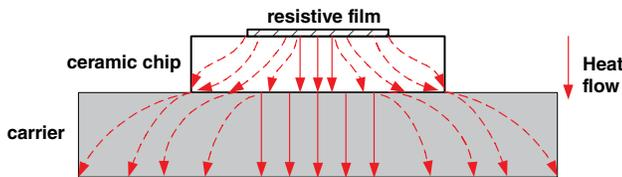
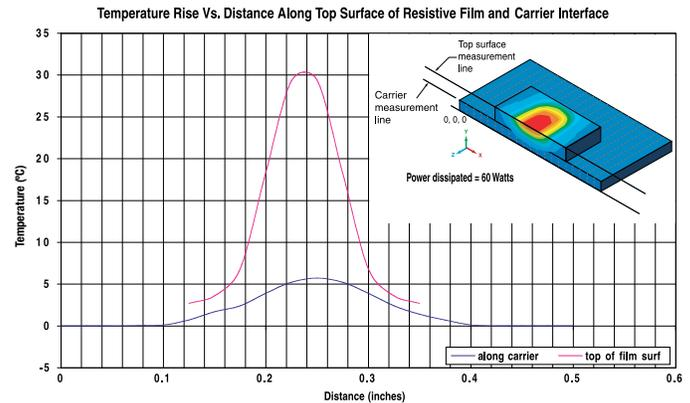
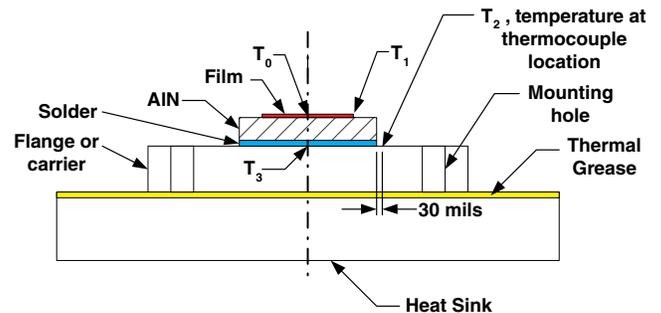

Figure 10. Heat flow around a mounted chip resistor
Figure 11: Computer simulation of isotherms around mounted chip resistor
Figure 12: Temperatures at a number of points on and around a ground plane-mounted resistive chip
Before we can do a thermal design, we must first decide on exactly what we shall mean by “power rating” for a chip device. **Figure 10** illustrates the heat flow around a mounted chip resistor. The resistive film, assumed to have constant power dissipation over its surface, behaves as an isoflux boundary, i.e., a source of uniform heat flux, rather than the isothermal boundary used in the derivation of equation (2). Were the film to completely cover the chip, the isoflux case would approach the isothermal case, but absent that condition the heat spreads out as shown.
The thermal resistance between two points is defined as the temperature difference between those points divided by the heat flow (typical units are degrees Centigrade/Watt). It is analogous to electrical resistance, with temperature corresponding to voltage and heat flux to current. **Figure 10** indicates that there is vertical as well as lateral heat flow in both the ceramic chip and the carrier it is mounted on. This implies that the system must be represented as a lattice network of thermal resistances rather than a single thermal resistance.
(The latter can characterize only the kind of one-dimensional heat flow assumed for equation (2).) **Stated alternately, the temperature will vary laterally along the film and, also, laterally along the mounting surface.** This is illustrated in **Figure 11**, which was made using a “Finite Element Method” (FEM) computer simulation. In actuality, a three-dimensional latticework of resistors is needed to describe a mounted resistive chip, and there is temperature variation along all three dimensions.
The above considerations bear importantly on how a chip is designed and characterized for power handling and exactly how confirming measurements are made. **Figure 12** indicates temperatures at a number of points on and around a mounted chip: (a) T_0 , at the film centroid; (b) T_1 , at the film edge or corner; (c) T_3 , on the mounting surface directly under the film centroid; and (d) T_2 , on the mounting surface 30 mils away from the chip edge. We can make the following qualitative observations:
An ideal heat sink has infinite thermal conductivity and, because of this, the infinite thermal conductivity, T_2 would equal T_3 in Fig. 12. From Fig. 10 and Fig. 11, this clearly is not the case for any real mounting surface; in fact, $T_3 > T_2$.
One strategy for defining power rating might be to measure T_3 directly – or deduce it from a measurement of T_2 and a computer FEM model – and then specify performance as if an ideal heat sink were held everywhere at that temperature. By slicing a mounted resistor in half along its longitudinal axis – in **Figure 12**, perpendicular to the plane of the paper, down the centerline – we were able to take advantage of the lateral heat-flow symmetry to measure T_2 and T_3 for chips of several sizes and input powers. (The slice plane is an adiabatic boundary, i.e., no heat flows across it.) Results of such measurements are presented in **Table 2**. All chips were 40 mils thick and all measurements were made on a silver-plated high-conductivity copper mounting surface (see the table for more information).
- Next, since our carrier does not have infinite thermal conductivity, we must specify the exact location – **T2 in Figure 12 – at which we hold the ambient temperature constant. Typically, we choose this as 30 mils from the chip edge along its lateral centerline** – an arbitrary, convenient spot at which to solder a small thermocouple.
Let us assume a perfectly conducting mounting surface in **Figure 10**, i.e., a surface along which there can be no lateral temperature variation. Then to calculate the total thermal resistance from the film to the mounting surface, one would compute the one-dimensional resistance of the chip with the film occupying its entire surface and then add the constriction resistance to account for the lateral constriction of the heatflow. (Note, from the top down the heat spreads and so the term “spreading resistance” is frequently used, but from the bottom up the heat flow constricts.) There are several expressions available in the literature for the constriction resistance of heat sources mounted on rectangular channels (“flux tubes”) with adiabatic walls, i.e., heat-producing films on chips that have no appreciable heat conduction perpendicular to their sidewalls. One formula that yields constriction resistance based on an average film temperature is⁵.